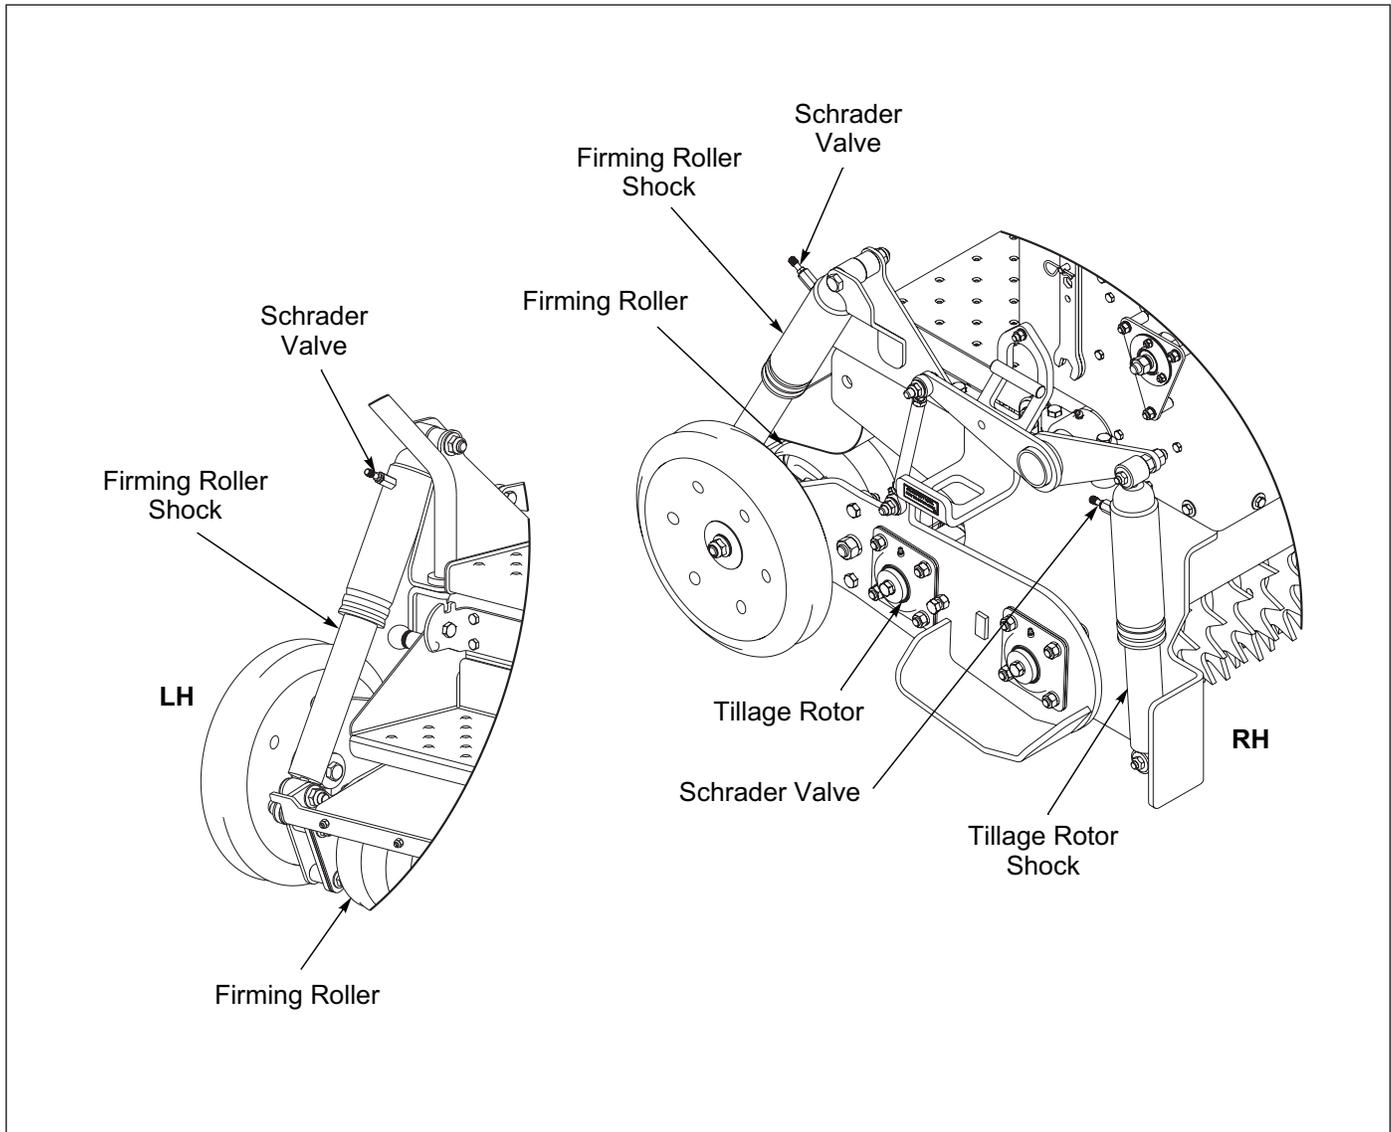

Figure 3-5: Air Shock
- Air pressure can be increased or decreased through the Schrader Valve on each Air Shock. See **Figure 3-5**.